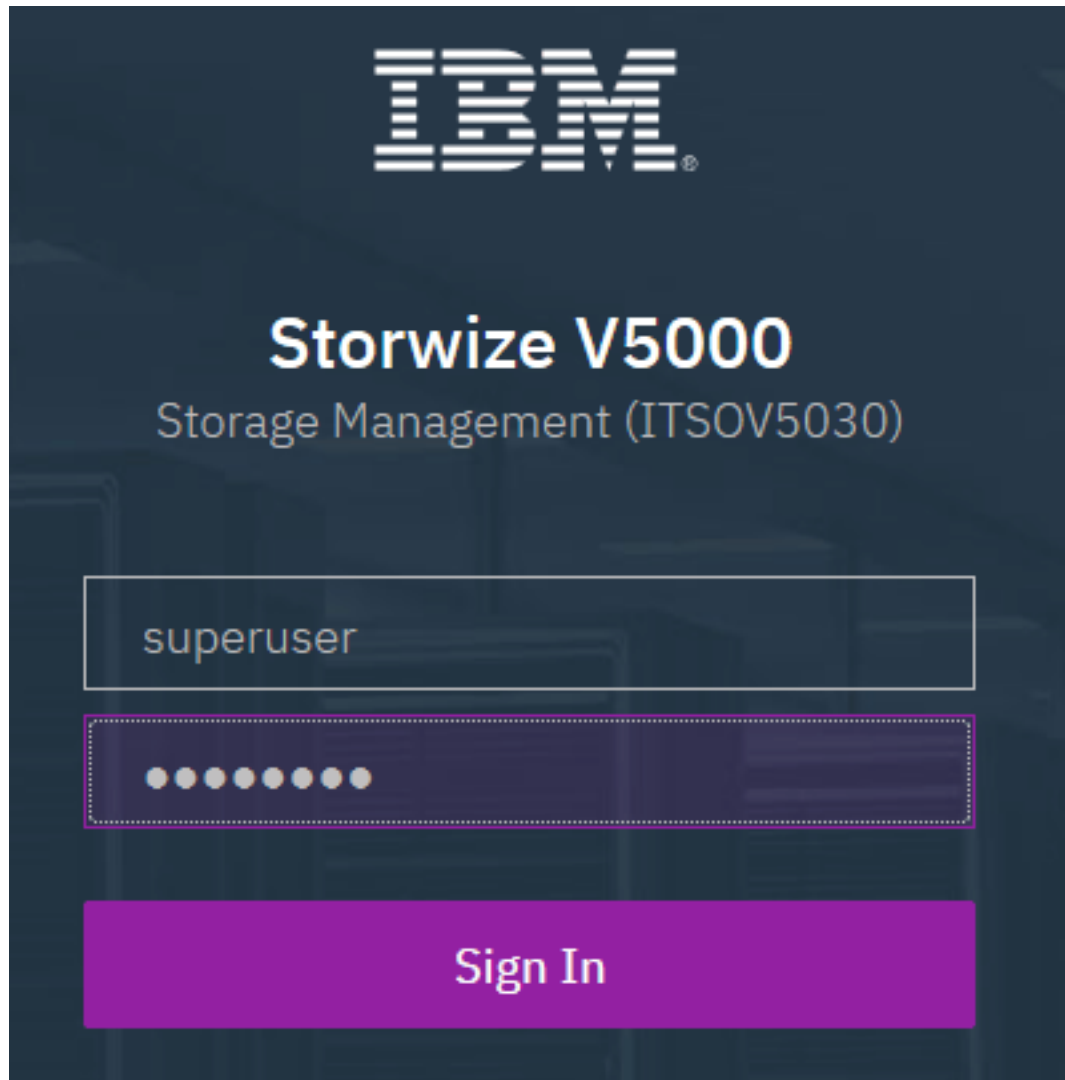

Figure 3-1 Login window
1. To log on to the management software, enter the IP address that was set during the initial setup process into the address line of your web browser. You can connect from any workstation that can communicate with the system. The login window opens (see Figure 3-1 on page 87).